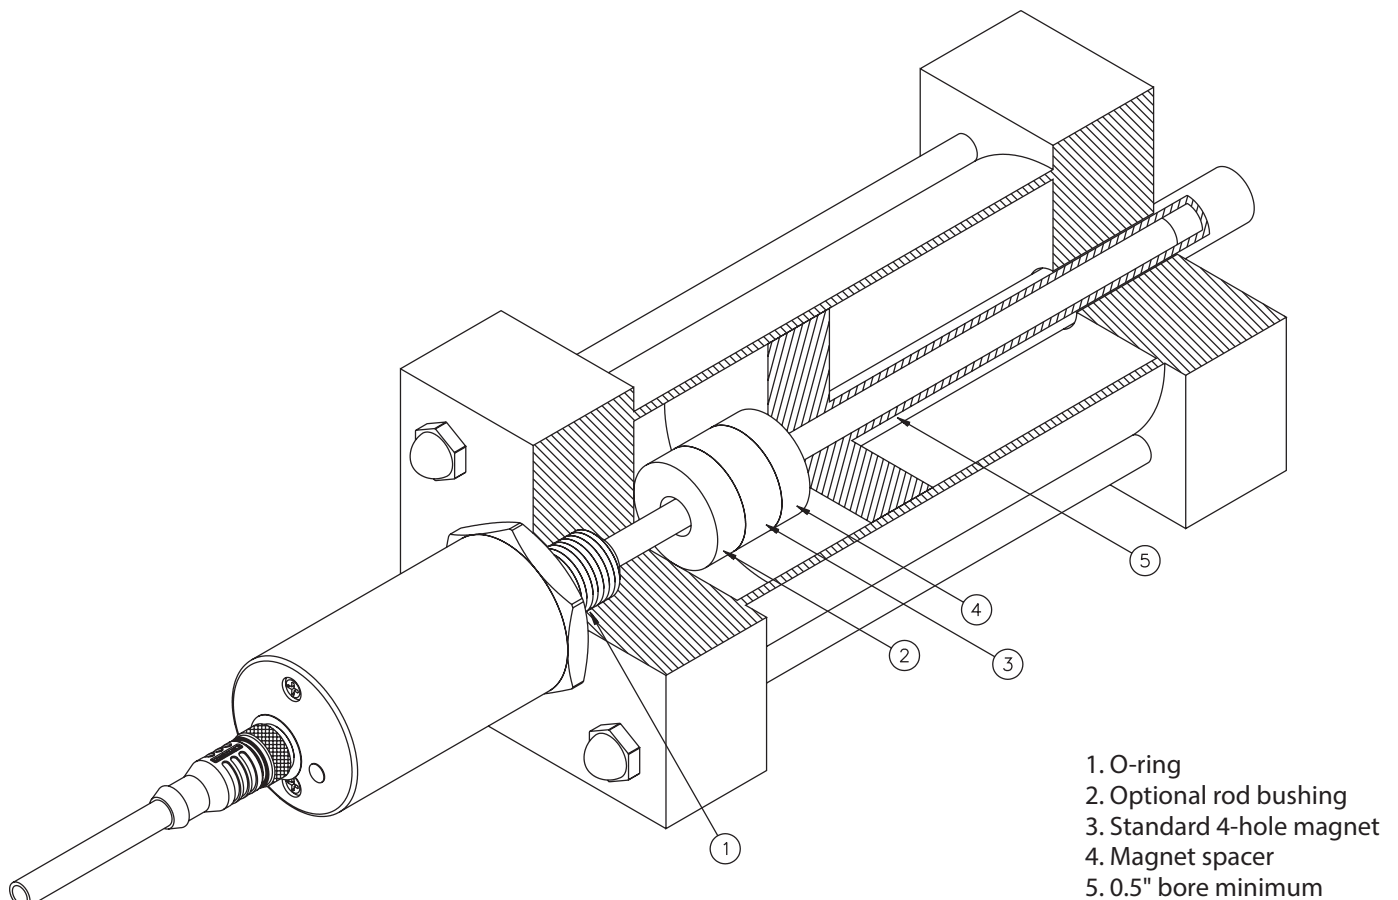

Figure 2-2: Mounting EZ-track in a Hydraulic Cylinder
- A non-ferrous spacer must be used to separate the magnet assembly from the head of the piston rod. See Figure 2-2.